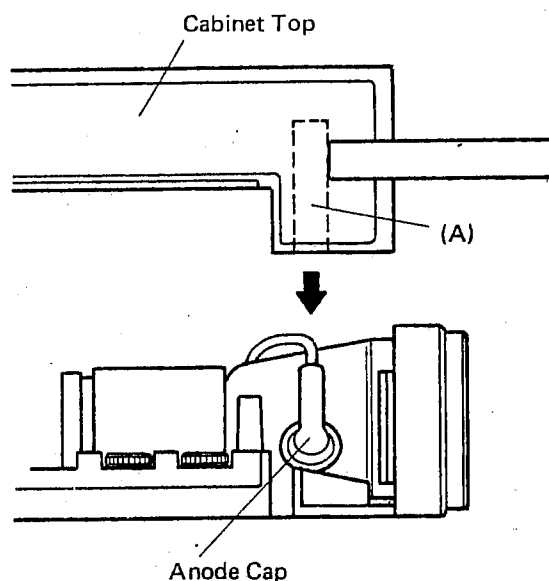

Figure 6
4. After picture tube removal. Place section (A) of the Cabinet Top on Anode Cap of the picture tube, when Cabinet Top assembling as illustrated in Figure 6.